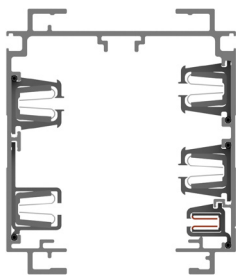

FIGURE 2
The design of the internal busbars also makes a difference. The best design is a U-shaped busbar (Figure 2), which provides a continuous receptacle fitting for two types of connections: (1) a compression-fit joint to link busway sections together, and (2) a compression-fit electrical connection for the plug-in units in the busbar. (See the following sections of this white paper for more information.)